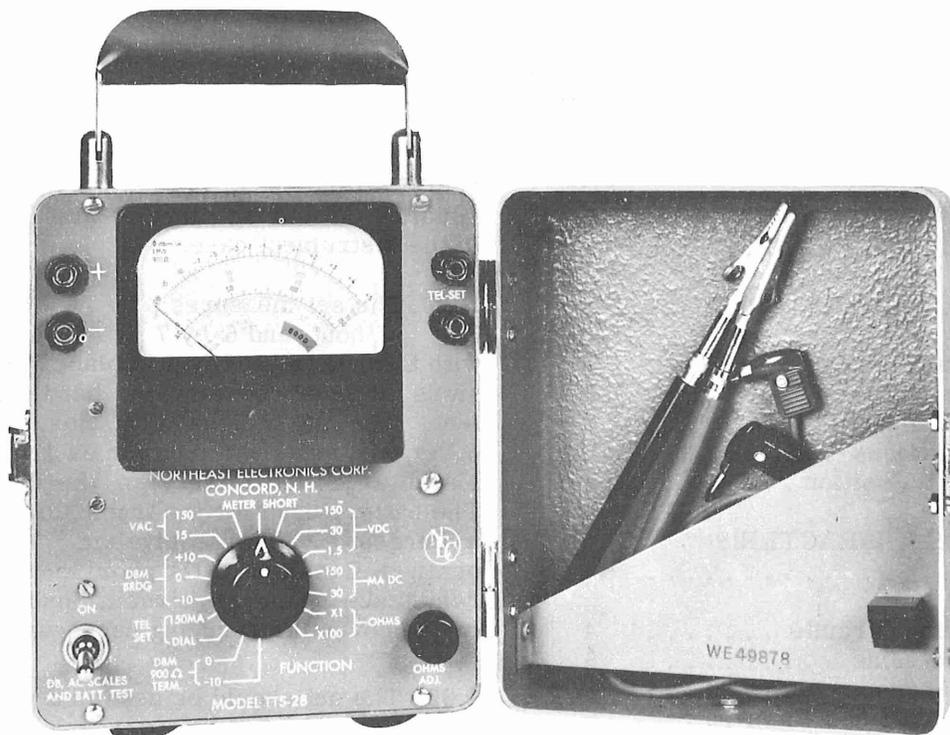

Figure 1 — Front Panel
2.01 The Model TTS-28 contains a transistorized amplifier designed to drive the meter for all level measurements and ac voltage measurements. In addition, it provides a through connection from the input (+ and -) terminals to the terminals marked TEL SET and it contains dc voltage, current, and resistance measuring provisions. The front panel view of this set is shown in Figure 1.